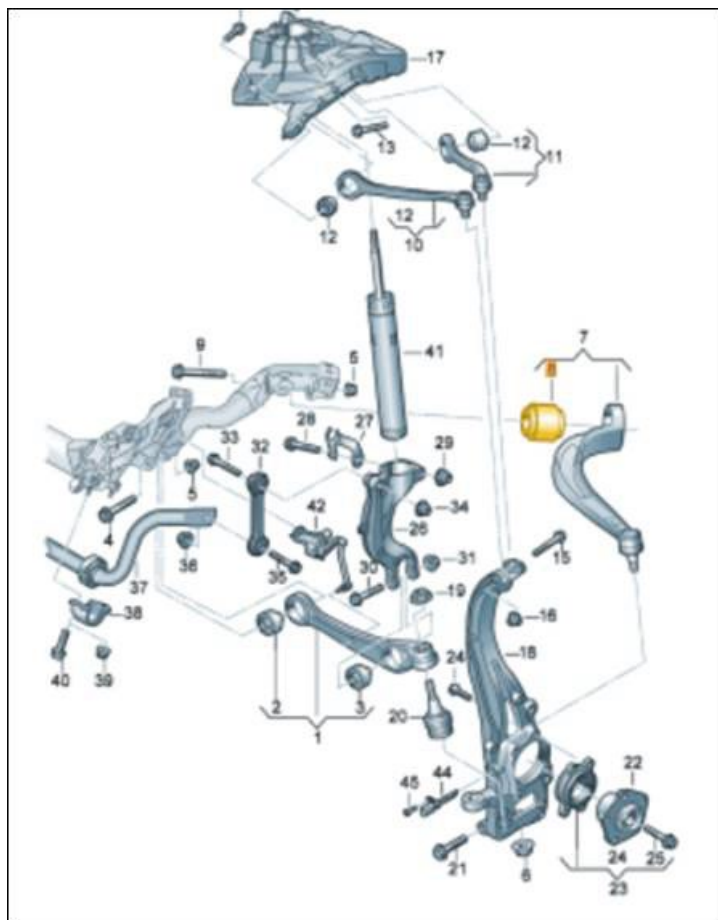

Figure 1: Guide link hydro bushing, front suspension.
1. The guide link hydro bushing. Figure 1 (item 8, marked in yellow), or